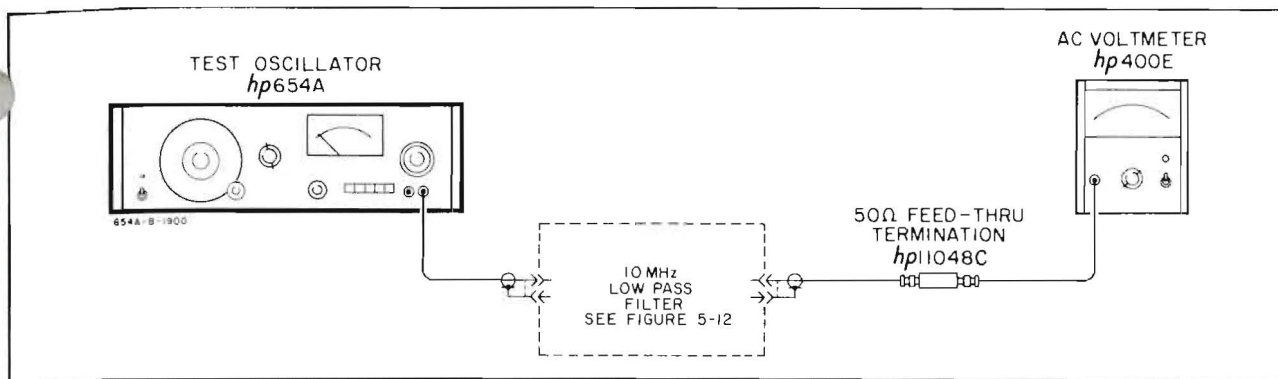
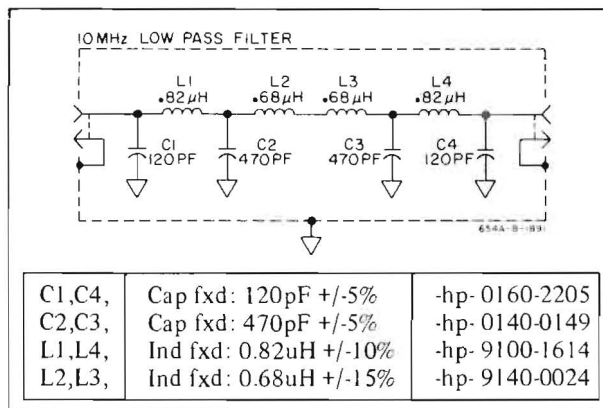

Figure 5-11. Hum and Noise Check
Figure 5-13. 10MHz Low Pass Filter
a. Connect the equipment shown in Figure 5-11. Figure 5-13 shows the parts required to build the 10MHz Low-Pass Filter.